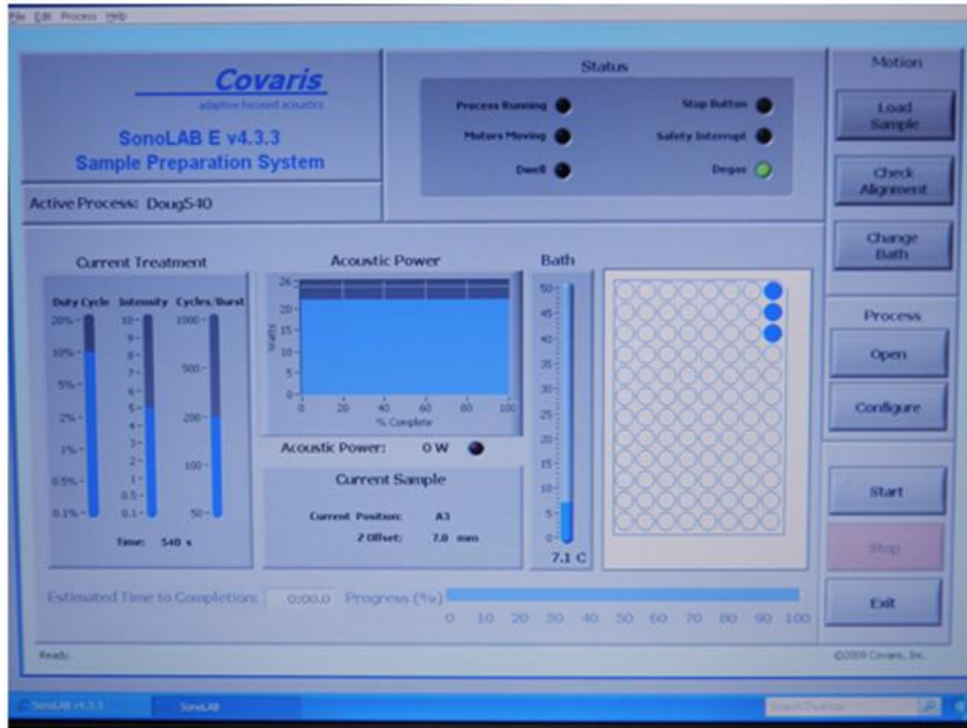

Figure 4: Main Panel on Covaris E-series
- 1.9. Lower the plate holder into the water chamber by clicking the “Check Alignment” icon on the screen. See Figure 4.
- 1.12. The Covaris E-series system requires that the water bath be degassed to maintain repeatable acoustic energy coupling. Press the Degas button and make sure that the degas light is on (see Fig4 below). Check that there are bubbles coming from the end of the degassing tube.